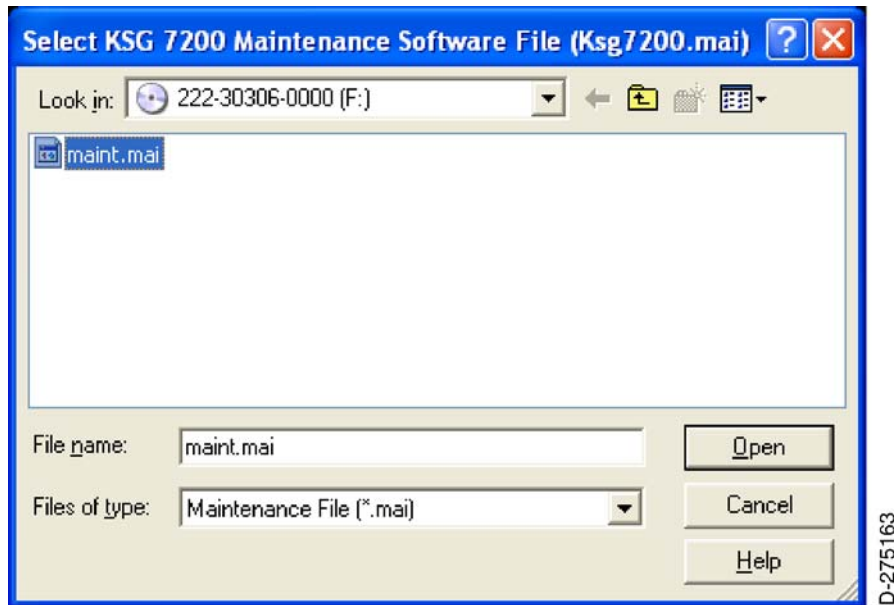

Figure 19. (Sheet 1 of 1) KSG 7200 Maintenance Software File (Ksg7200.mai) Window
- (6) Click the OK button and the Select KSG 7200 Maintenance Software File window will appear. Refer to Figure 19.